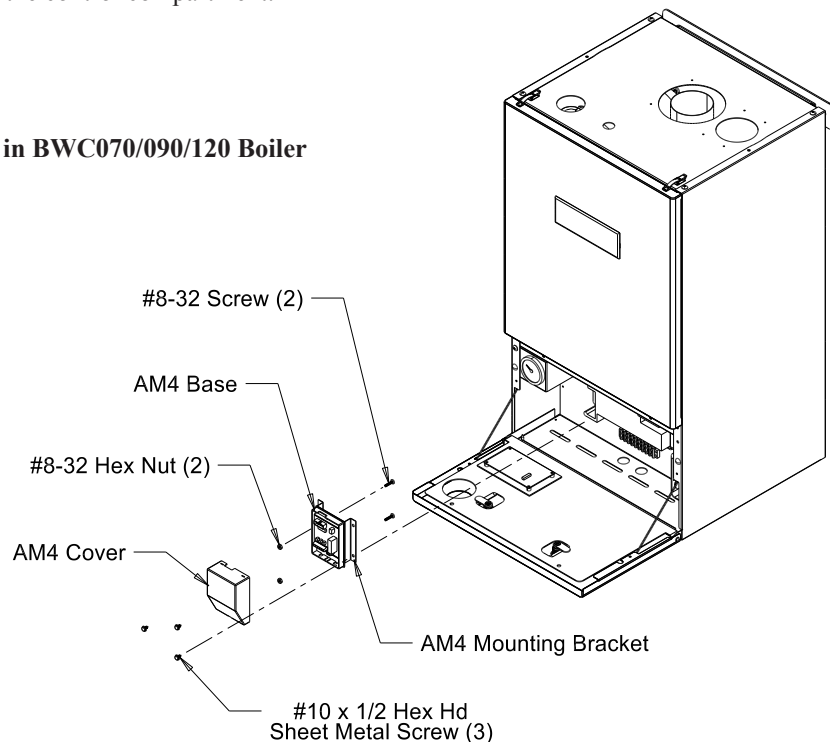

Figure 1.1: AM4 Installation in BWC070/090/120 Boiler
2. To remove the AM4 cover, insert a small flat blade screwdriver into the slot located on the tapered end of the control and lift the cover off. Attach the AM4 base to the AM4 mounting bracket using two #8-32 x 3/4 screws and hex nuts as shown in Figure 1.1.
3. Attach the mounting bracket to the control chassis using three #10 x 1/2 sheet metal screws as shown in Figure 1.1. Reattach the resistor using its clamp in its original mounting hole over the AM4 bracket.